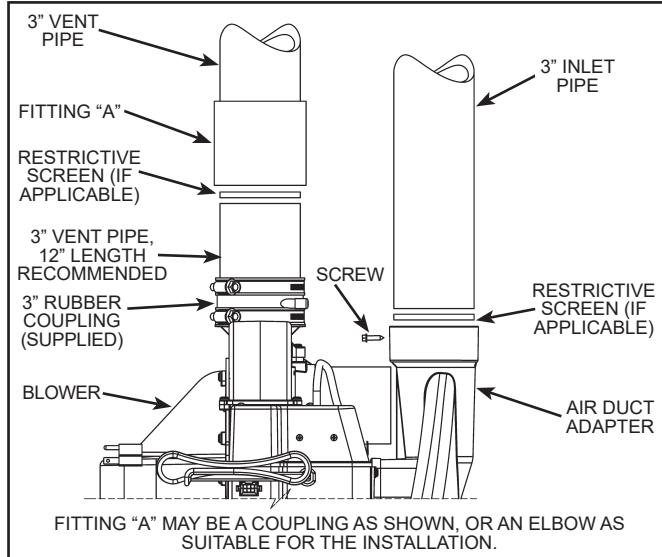

Figure 45.
- The vent piping connects into the rubber coupling located on the top of the blower assembly. This coupling includes gear clamps to connect the venting to the blower. See Figure 45.
Figure 45 shows heaters having 3" direct connection to the blower.